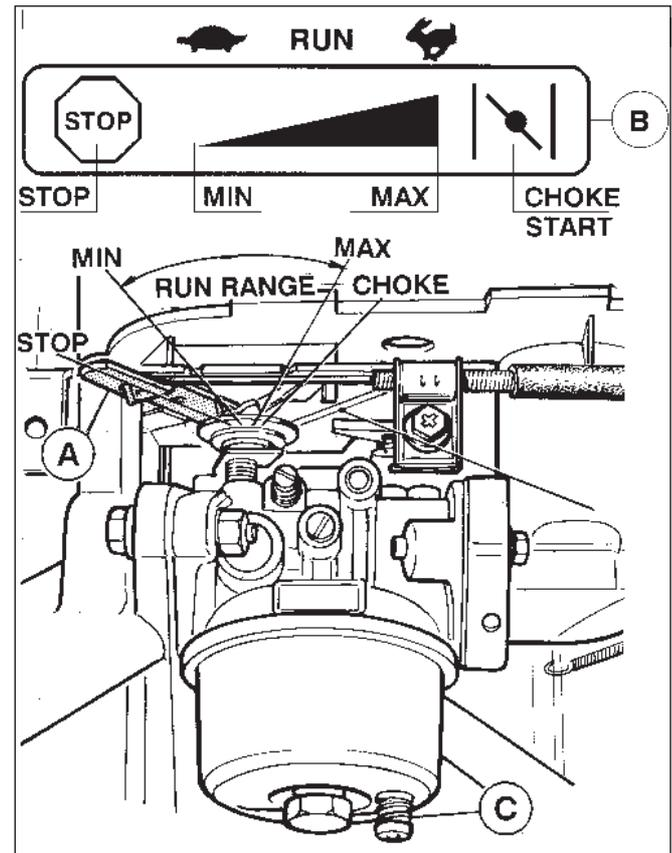

Fig. 2
- Move control lever (Fig 2) on engine or remote control (Fig 2) on equipment to choke or start.
**NOTE** - Warm engine normally starts without choking. Move control lever (Fig 2) on engine or remote control (Fig 2) on equipment to MAX position; then follow 'b' 'c' and 'd' instructions.